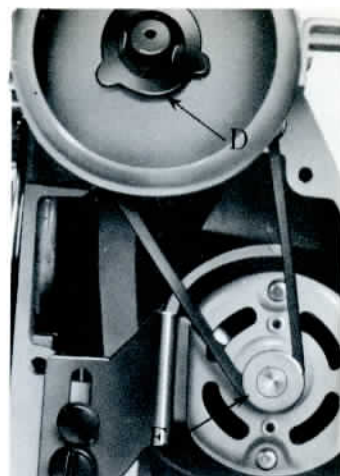

Fig. 64
- (4) Before moving hand wheel, note position of lips on washer D (Fig. 64) as it will fall off when changing the belt.
- (5) Slide old belt over motor pulley E (Fig. 64).
- (6) Pull hand wheel away from machine just far enough to allow the belt to slip over wheel.
- (7) Put new belt in grooved section of hand wheel and then over motor pulley.
- (8) Replace washer D in original position.
- (9) Replace clutch nut and screw C. After doing this, turn clutch toward you to disengage sewing mechanism. If the needle still moves up and down as you turn the hand wheel, again remove the clutch nut, give washer D a half turn and replace the nut.
- (10) Replace rear cover.